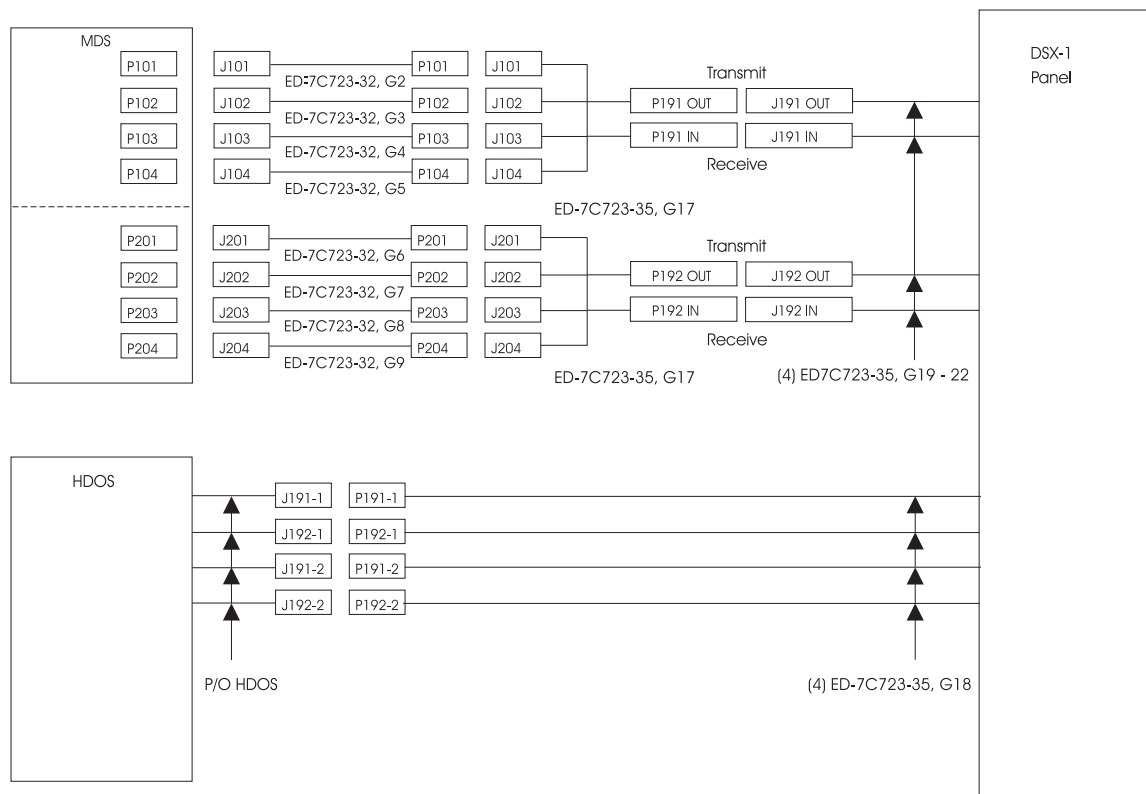

Figure 2 – DSX-1 Panel Cabling Connections
12. Connect the ED-7C723-35, Group 18, HDOS cable connectors P191-1, P191-2, P192-1, and P192-2 to the HDOS connectors J191-1, J191-2, J192-1, and J192-2, respectively (refer to Figure 2).